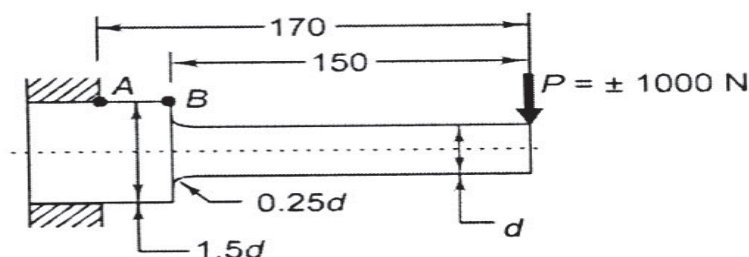

Fig 2.
b) A cantilever beam made of cold drawn steel 20C8 ($S_{ut} = 540 \text{ N/mm}^2$) is subjected to a completely reversed load of 1000 N as shown in Fig 2. The notch sensitivity factor 'q' at the fillet can be taken as 0.85 and the expected reliability is 90%. Determine the diameter 'd' of the beam for a life of 10000 cycles. Assume surface finish, size and reliability factors are 0.78, 0.85 and 0.897 respectively. Also assume $K_t = 1.35$. [12]